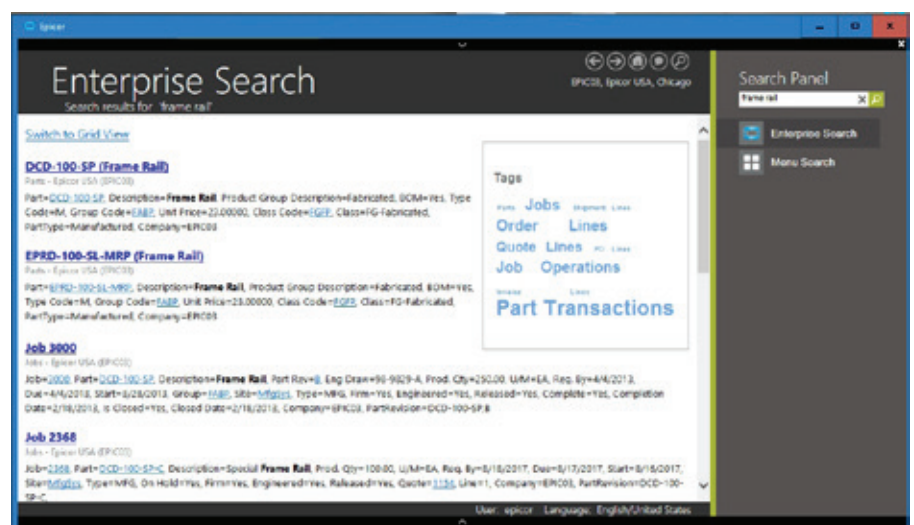

Figure 14.5 Enterprise Search—Epicor Enterprise Search delivers search options for relevant business information in a format similar to Google.
- ▶ Epicor Administration Console-Based System Configuration (See fig. 14.5)